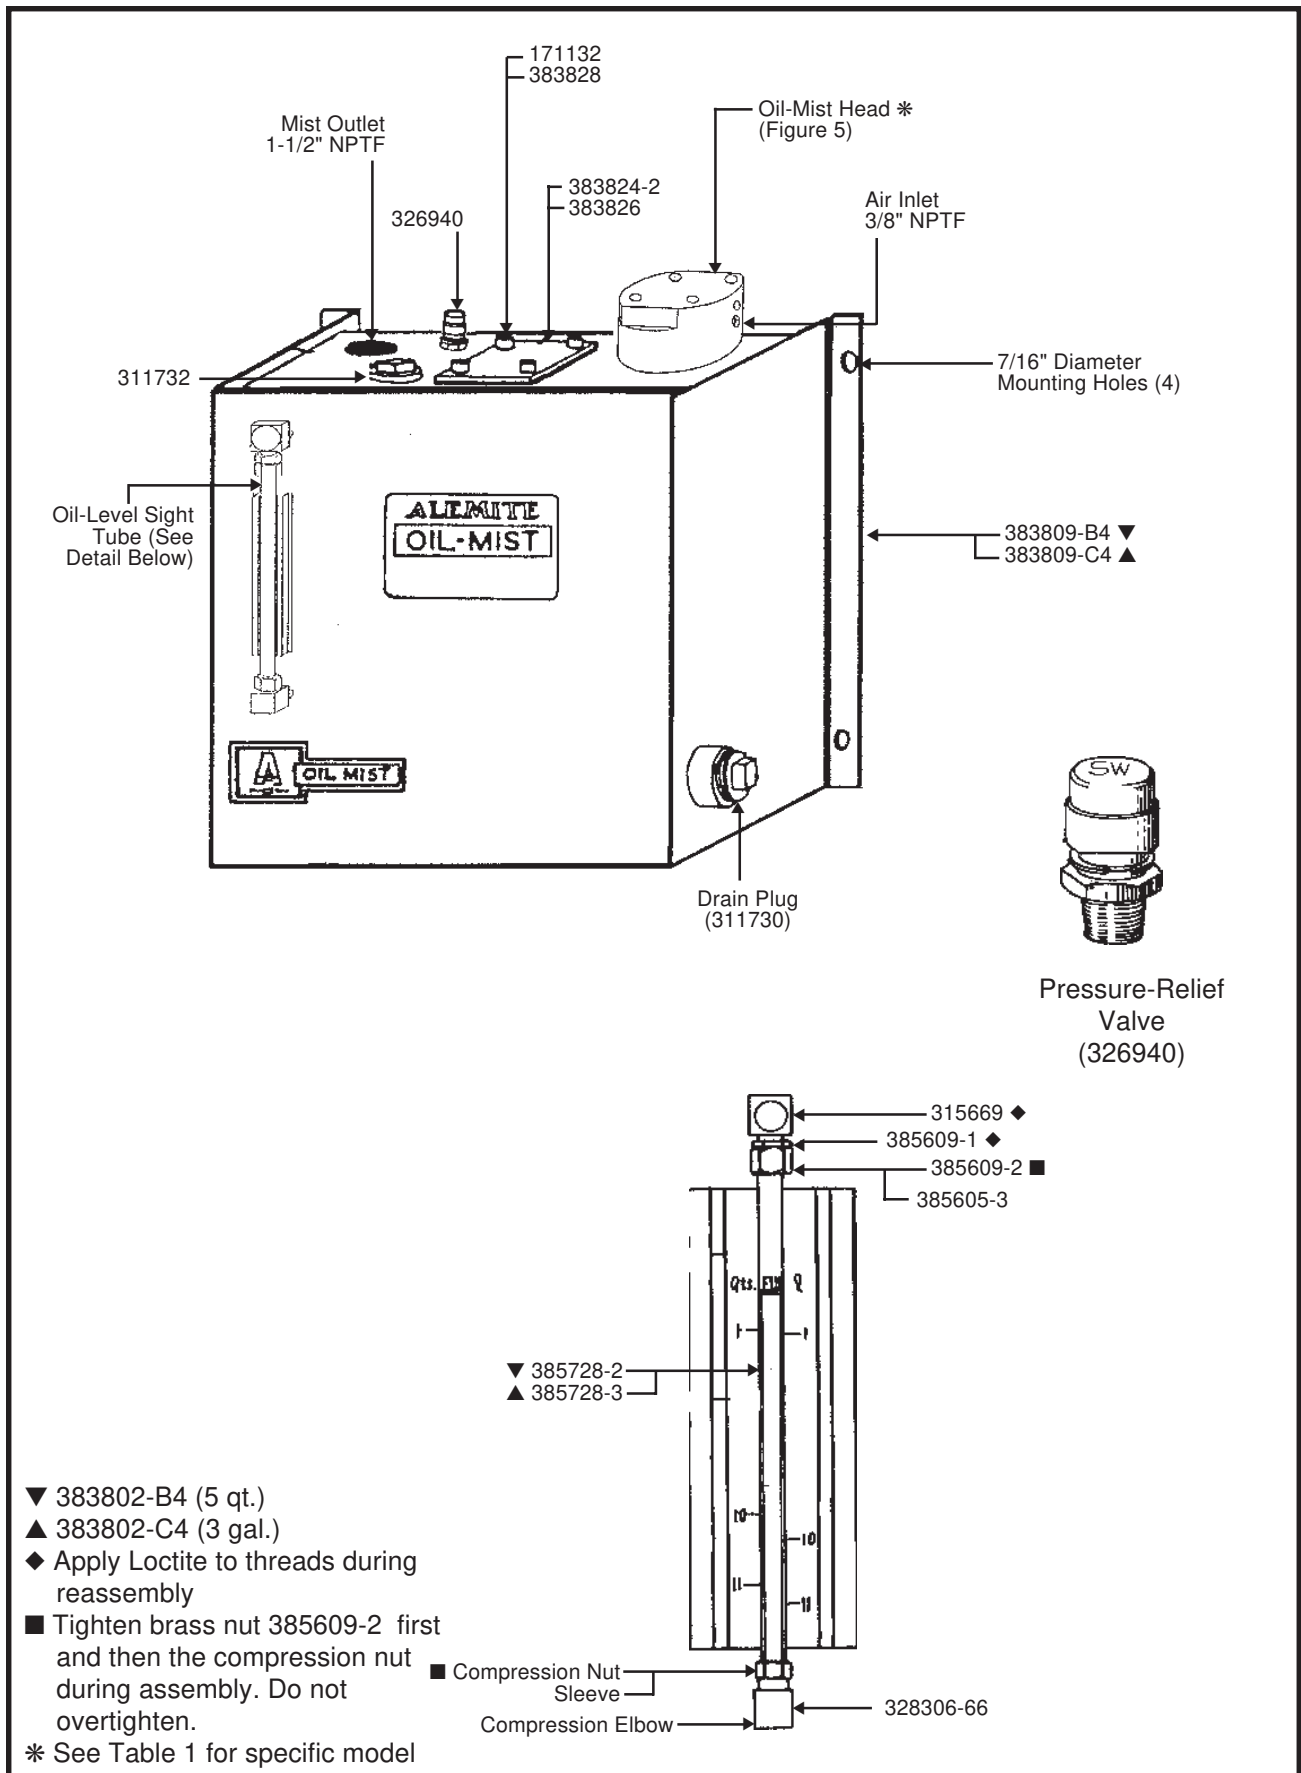

Figure 4: Series 383802 Oil-Mist Reservoir with a Mist-Generating Head
1. Remove the tape covering the opening on top of the reservoir 383802 (Figure 4).
3. Insert mist head assembly (Figure 4) into opening with air inlet to the right (as you face unit).
1. Drill four holes in wall corresponding to mounting holes on the side of the unit (Figure 4).
(Figure 4)
a. Connect the facility air supply to the air inlet of the mist head assembly using an air regulator to control the inlet air pressure and an air filter/ moisture separator to assure clean, dry air for proper oil atomization (Figure 4).
1. Disconnect air supply from mist head assembly (Figure 4).
TO DISASSEMBLE RESERVOIR (FIGURE 4), PROCEED AS FOLLOWS: